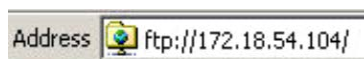

Figure D-7: Terminal FTP Address
1. Open Internet Explorer, and type the terminal's address into its address line as shown in the example in Figure D-7. Press ENTER.